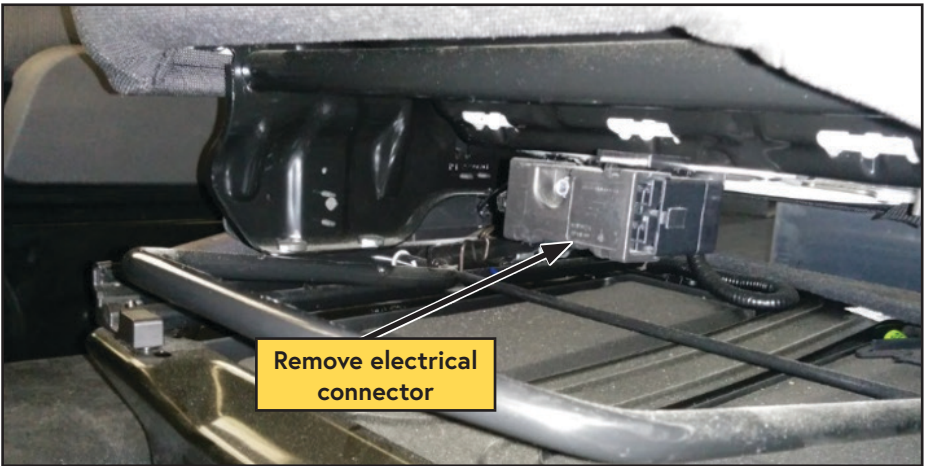

Figure 8 — Seat electrical connector
- Remove the seat electrical connector (Figure 8).